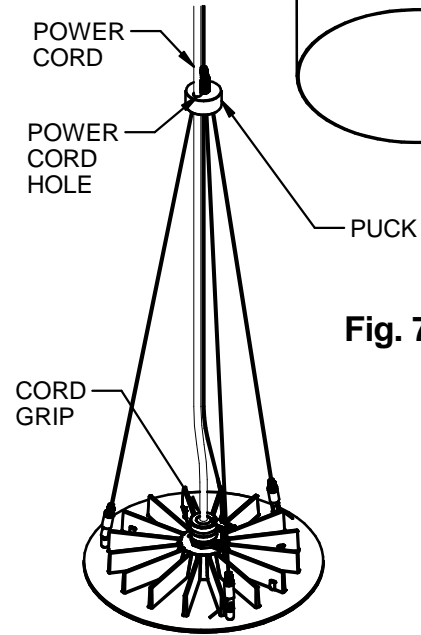

Fig. 7
10. Feed the power cord through the hole in the puck assembly and insert the end of the power cord through the cord grip and into the cylinder wiring compartment (Fig. 7). Trim the power cord to length, if needed. **NOTE:** If desired, tie the power cord to the 20 foot cable with nylon cable ties every foot *before* trimming the power cord to length! Strip the jacket from the power cord and strip the end of each conductor 3/8ths of an inch. Make the electrical connections in the fixture wiring compartment. The line voltage (Black) conductor connects to the two-position connector with the Red thermal protector wire. The neutral (White) conductor attaches to the empty position on the connector with the White wires. Connect the ground (Green) conductor to the two-position connector with the Green wire. Use the two extra power cord conductors (Purple and Gray) to connect to the dimming control wires, if provided. Make sure to follow the same connection colors as used in Step 3. **Cap off these conductors if not used.**